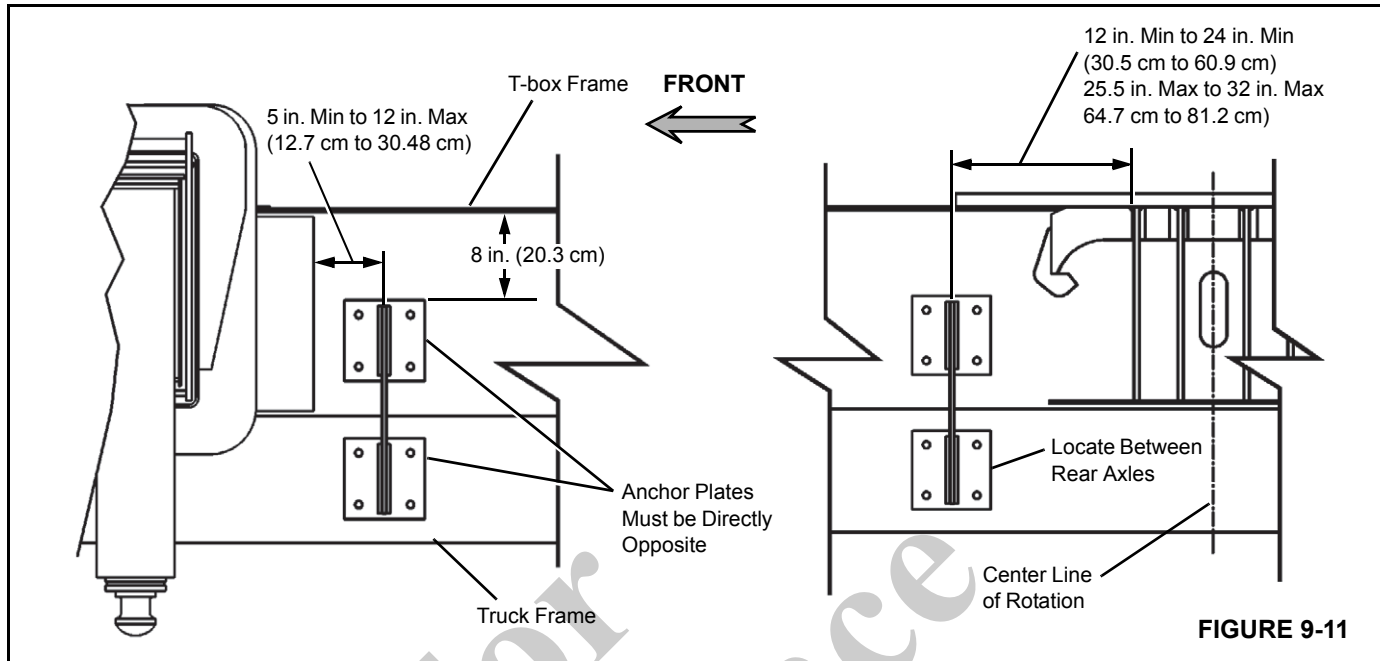

FIGURE 9-11
2. Locate the upper mounting plates (4 places) on the T-box frame as shown in Figure 9-10 and Figure 9-11.